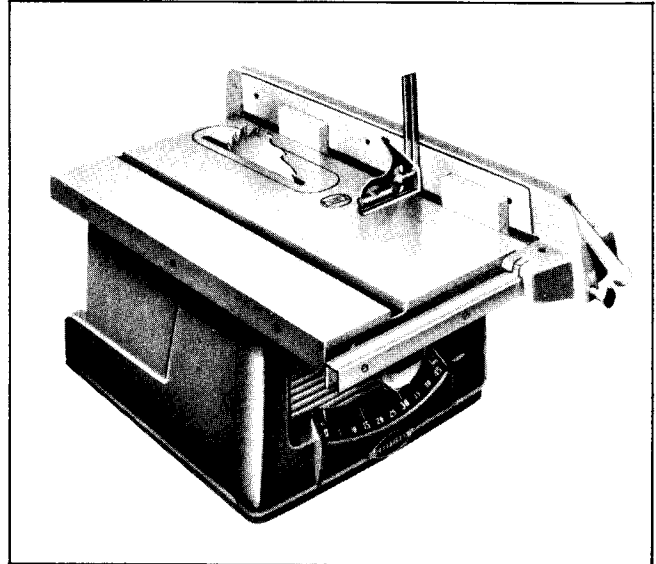

FIGURE 4
1. Place a block of wood or steel, which fits the Miter Slot snugly; at both ends of the Table (See Fig. 4).
This adjustment may be checked by placing a combination square against the fence body, see Fig. 4.